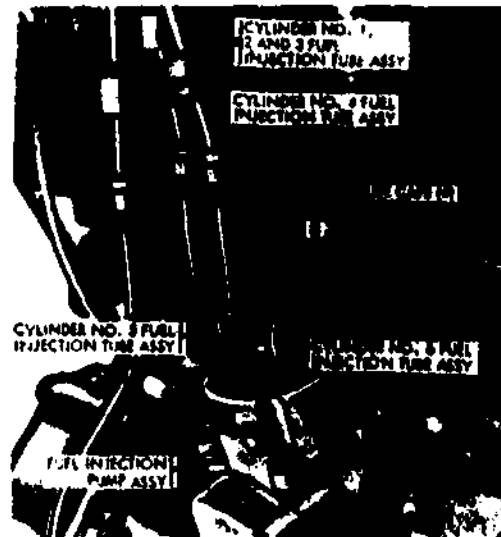

Fig 4-24. Fuel injector lines.
- (1) Removal (fig 4-24). To remove a fuel injector line, remove the two self-locking nuts securing the inner and outer mounting clamps that clamp the line to be removed. Slide the dust cap up at the injector pump hydraulic head, revealing the injector tube nut. Unscrew the tube nut, being very careful to prevent any dirt from entering the hydraulic head after the nut is removed. Now, unscrew the injector tube nut at the injector nozzle and remove the line.